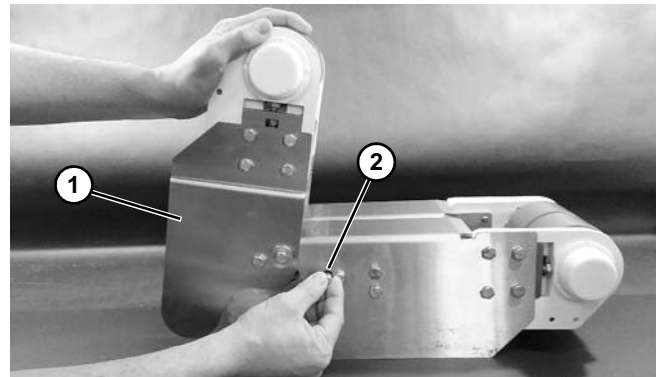

Figure 13
*To lower idler tail, push idler tail (**Figure 13, item 1**) to its maximum up position, and move locking lever (**Figure 13, item 2**) up to disengage lock. Lower tail slowly.*